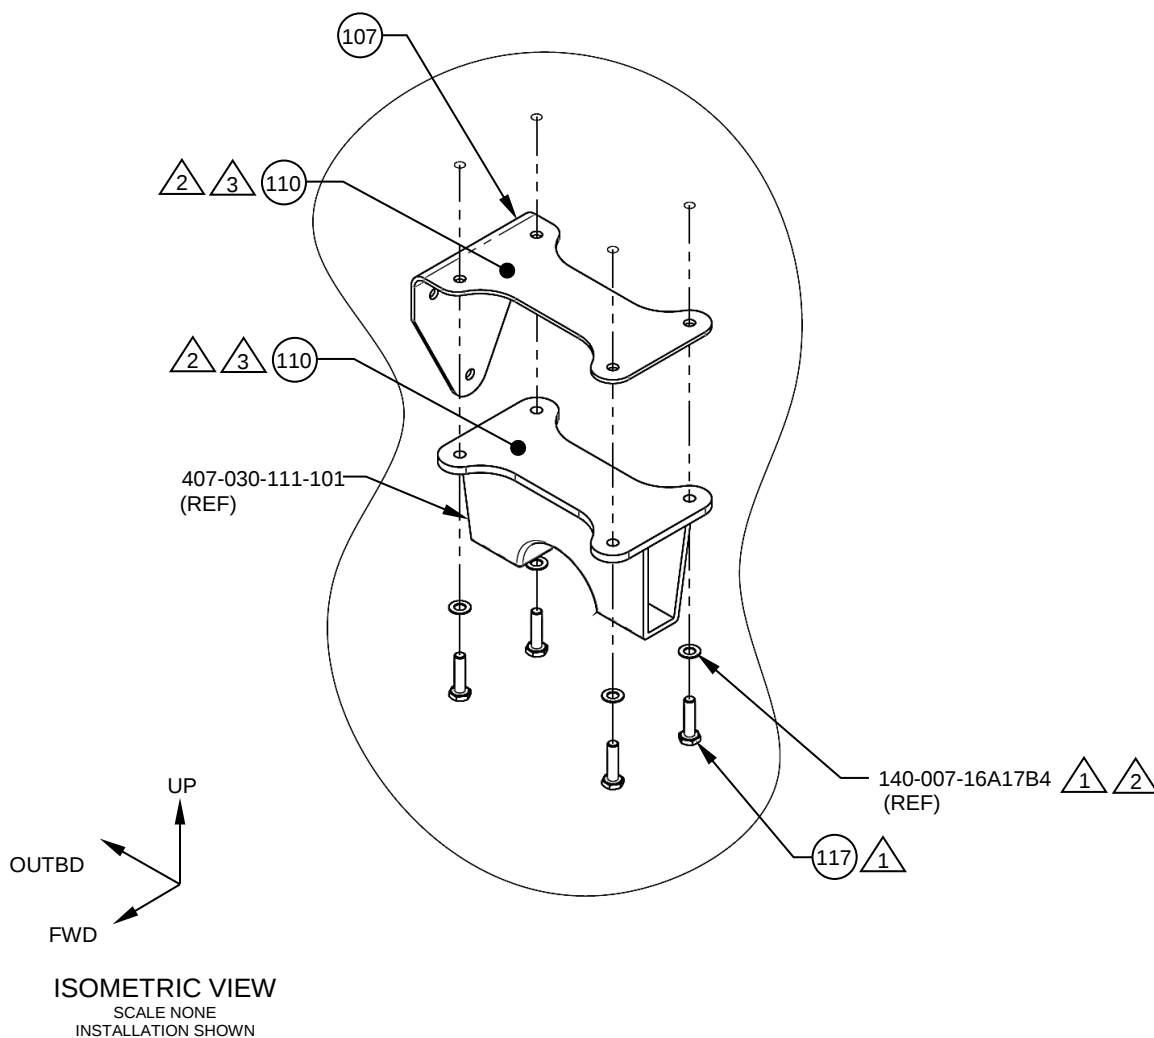

Figure 8
2. To replace 2X FWD Mounting Bracket, (Item 107), apply Sealant, Corrosion Inhibitive, (Item 110), to faying surfaces per MIL-PRF-81733. Reference Figure 8.